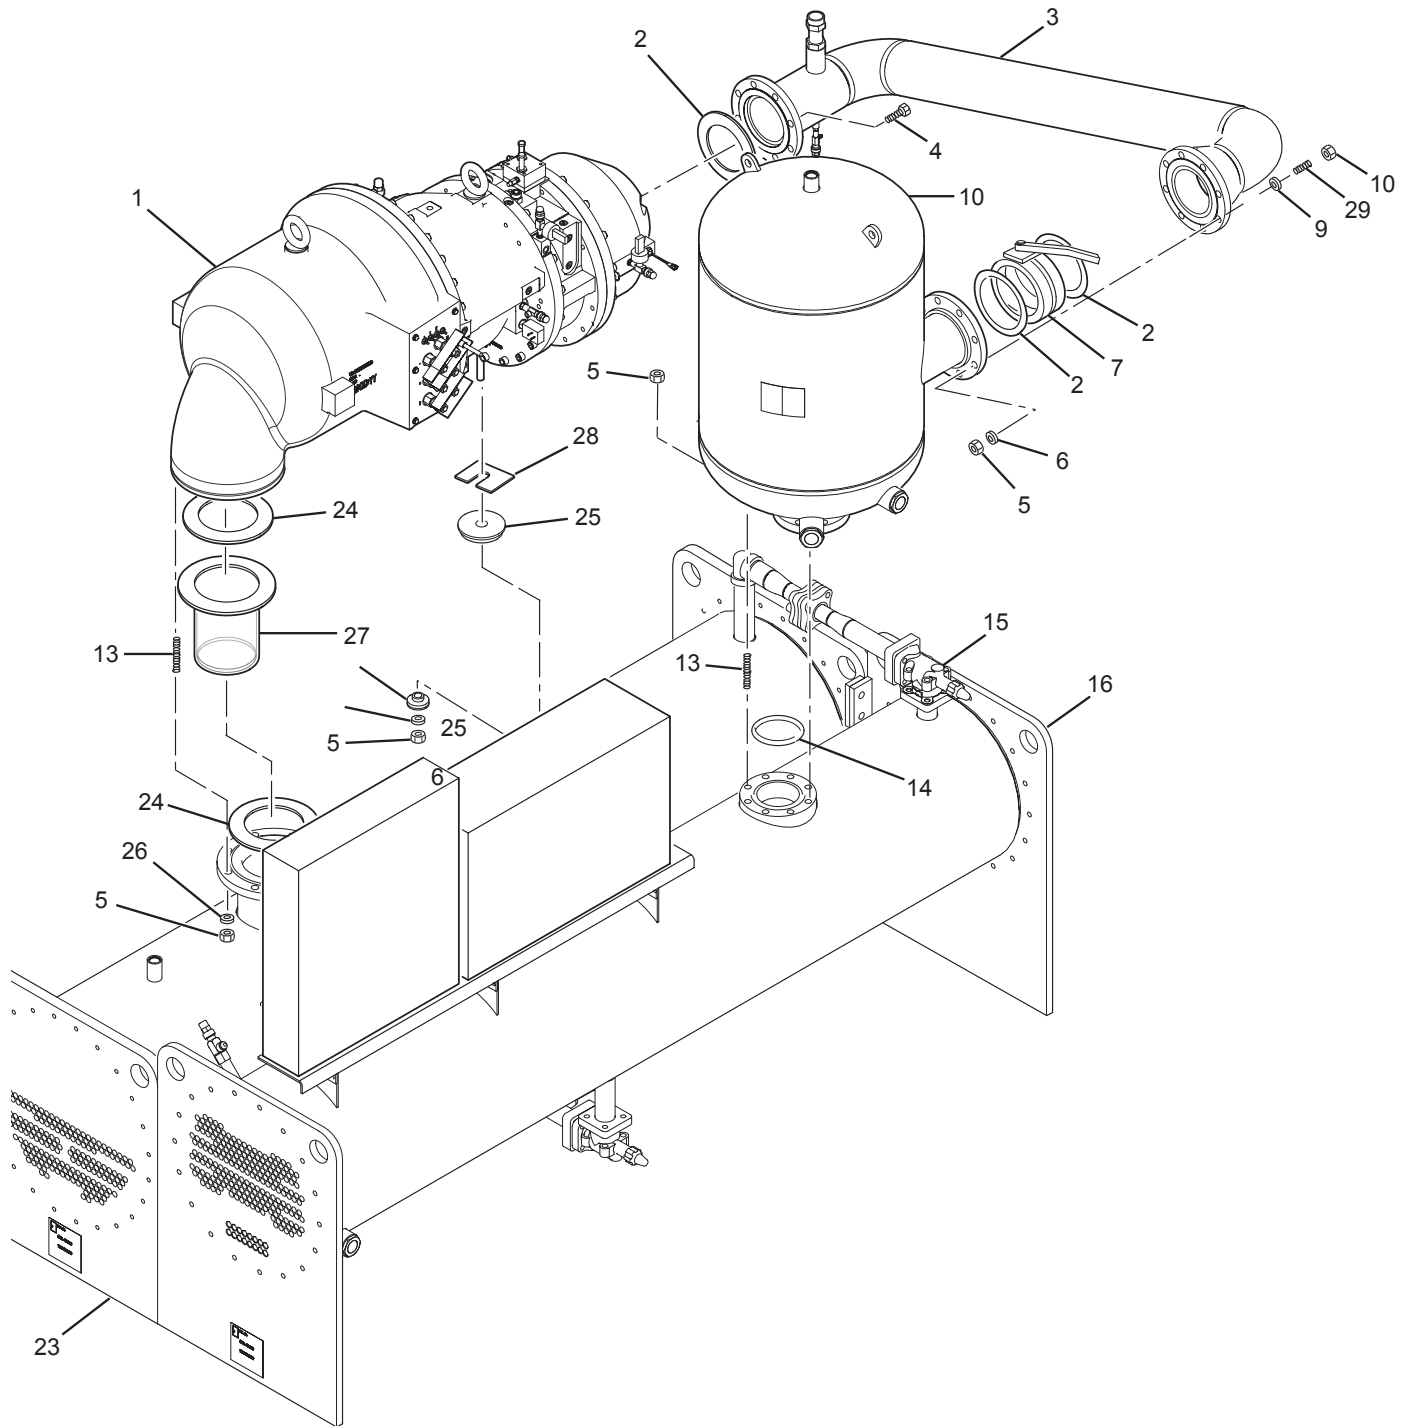

FIG. 7 – FORM 3 FIELD ASSEMBLY – EXPLODED VIEW
4. Place gasket on the evaporator suction flange and lower the compressor assembly. Guide the studs through the gasket and suction flange on top of evaporator. (Refer to Figure 7.)
5. Insert the cap screws, washers, and nuts to fasten the motor to the motor support bracket. Level the compressor-motor. If necessary, adjust the screws and nuts to level compressor, and add shims if necessary, between the motor feet and the support. (Refer to Figure 7.)